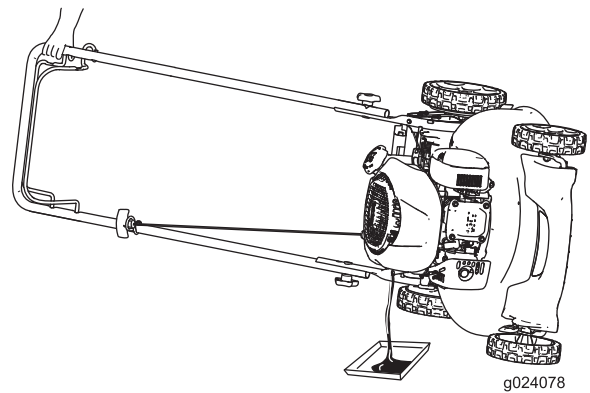

Figure 20
2. Tip the machine onto its side, with the dipstick down, to drain the used oil out through the oil-fill tube (Figure 20).